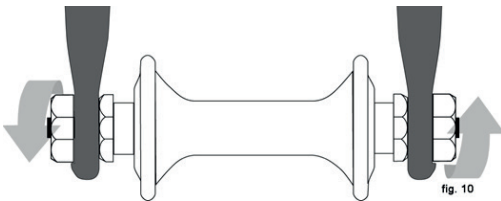

fig. 10
2. Hex nuts or hex key bolts which are threaded on to or into the hub axle (bolt-on wheel, fig. 10)